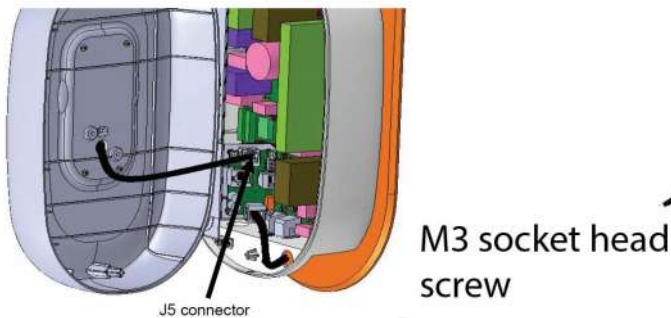

Figure 75
- Take the base unit front cover and connect the console cable to the J5 connector on the "Console extension PCB-Internal" located top of the power board as shown in Figure 75 .